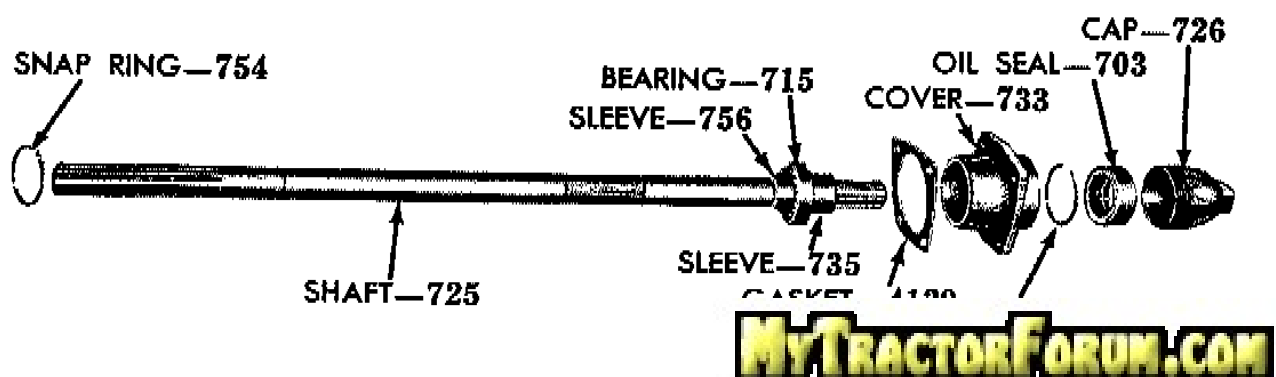

Fig. 48—Power Take-off Shaft, Disassembled
The disassembled power take-off assembly is shown in fig. 48.
b. Power Take-off Shaft. Remove the snap ring from the rear of the bearing. Press the shaft and bearing assembly from the power take-off cover. Press the dust and oil seal out of the power take-off cover (fig. 48).
b. Power Take-off Shaft. Replace the shaft and bearing assembly (fig. 48) if the splines are damaged, if the bearing is scored, or corroded, if the bearing race is loose, or if the oil and dust seal surfaces are damaged. Always replace the oil seal if it has been removed.
To assemble the power take-off shaft assembly, press the oil seal (fig. 48) in the cover. Press the cover assembly onto the shaft and bearing. Install the rear snap ring in the cover. Install the cover cap.